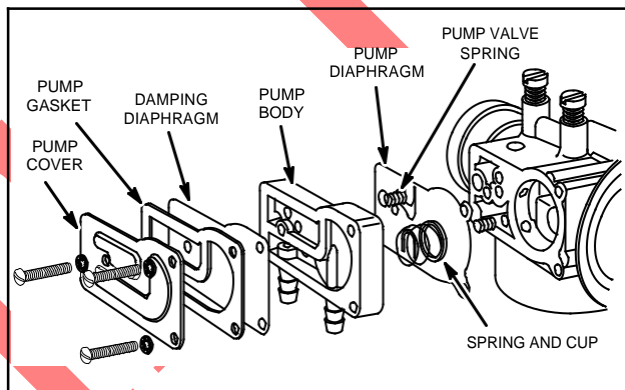

Fig. 291 - ASSEMBLE FUEL PUMP
5. Place damping diaphragm, pump gasket and pump cover on pump body and install three screws, Fig. 291. A fuel pump repair kit is available. See Illustrated Parts List for part number.